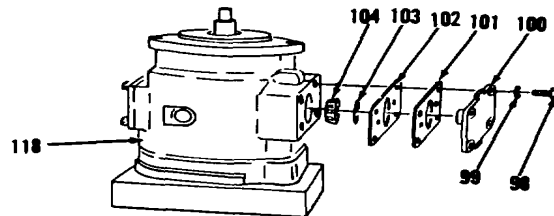

Figure 10-35.
- 47. Remove eight bolts (98), lock-washers (99), two covers (100), shim(s) (101 and 102) and two preformed packings (103) from body (118, Figure 10-35). Discard preformed packings (103).
- 48. Remove two bearings (104).